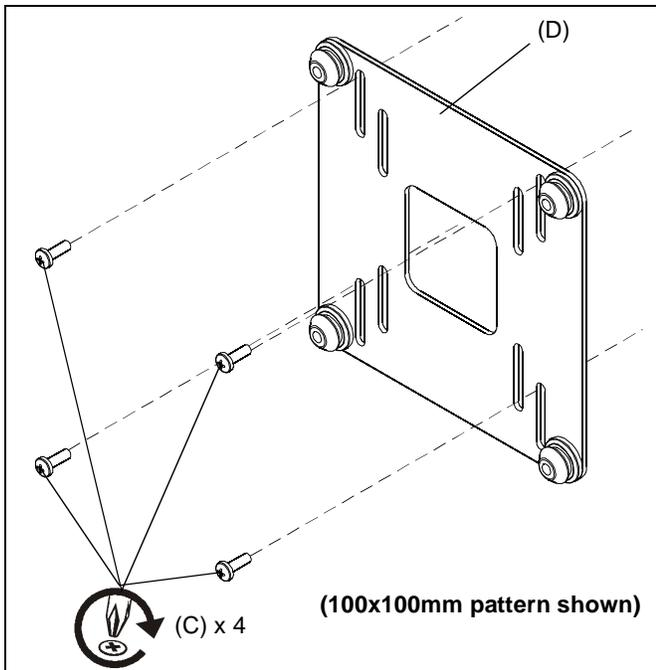

Figure 1
1. Attach interface bracket (D) to back of display.
Secure bracket to display using four M4 x 12mm Phillips cap head screws (C). (See Figure 1)